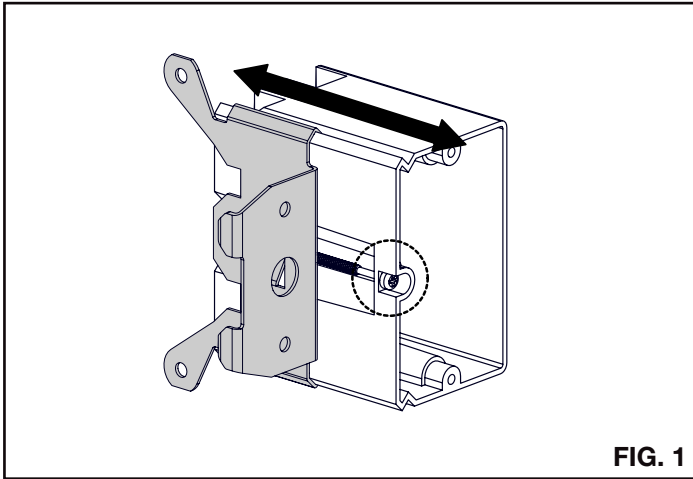

FIG. 1
1. Adjust the bracket to align with the finishing material (FIG 1).